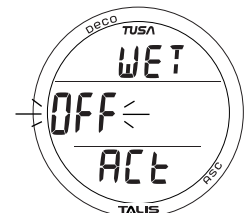

Fig. 37 - SET WET ACTIVATION
**SET WET ACTIVATION**, information includes (Fig. 37):